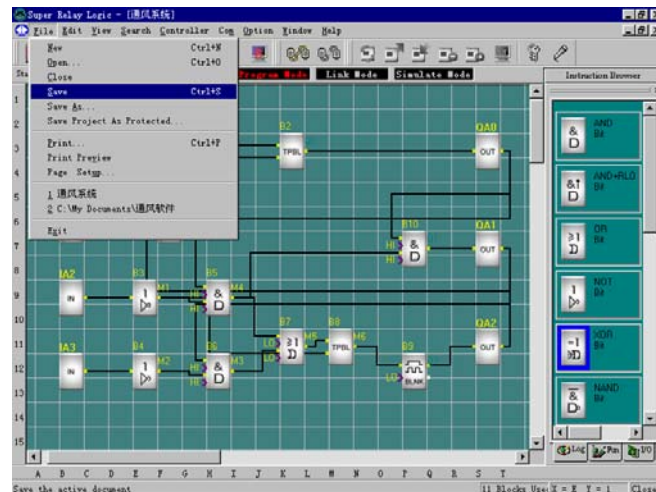

Fig 4.14 Save File Menu
- A dialog box shown as fig 4.14 appears, you can set up saving path and file name in this box.